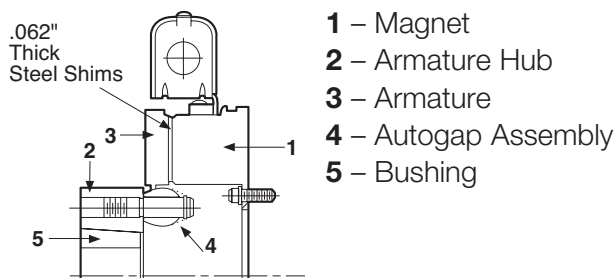
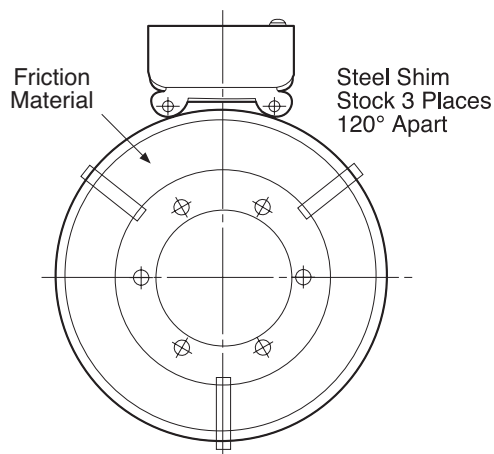

Figure 6
Figure 7
Step 4: Place three steel shims 120 degrees apart on the magnet as shown in Figure 7. Insert the taper-lock bushing (Figure 6, item 5) into the hub (Figure 6, item 2).
Disassembling the Armature/Hub Assembly (Figure 6)
Note: Make sure power to the brake is turned off. See Figure 6 on page 5 for the following two steps.
Step 1: Loosen the taper-lock bushing (item 5) on the brake shaft.
To loosen, remove both allen screws from the taper lock bushing (item 5, figure 6 on page 5) using an allen wrench. Insert the allen screw into the previously vacant tapped holes in the taper lock bushing and tighten this screw until the bushing is loosened in the hub (item 2). If the bushing does not loosen, tap on the hub with a small hammer.
Step 2: Apply power to the brake. The armature will then spring away from the magnet. If it does not, check electrical connections and release voltage. Remove taper lock bushing (item 5) and armature assembly (items 2 & 3) from the brake shaft. Set the bushing aside. Do not discard the bushing.